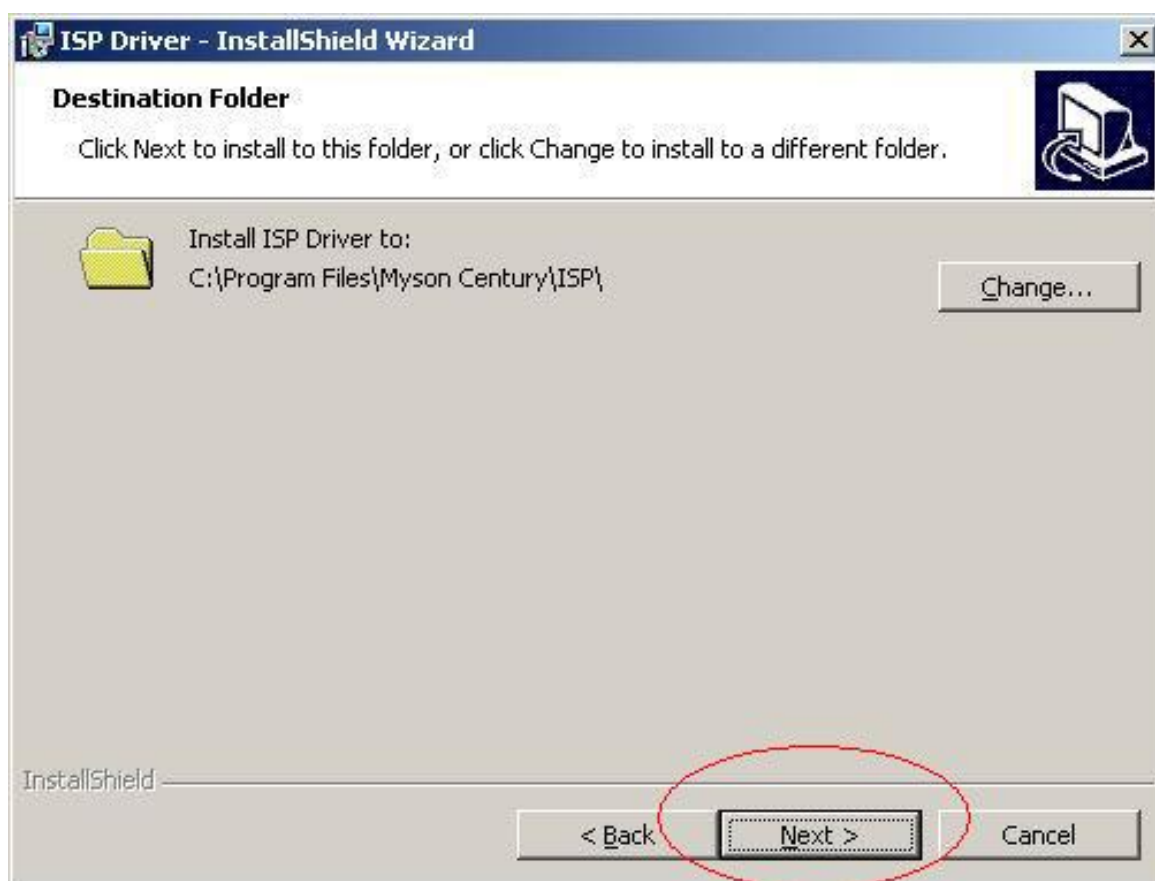

Fig 1.2
4. Keep default setting or press “ Change “ button for selecting the path that you want , and then press “ Next “ button to continue , see Fig 1.2